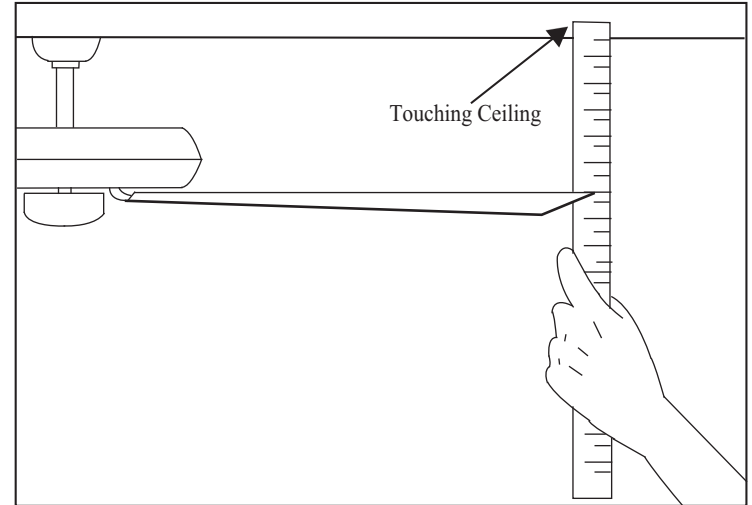

Figure 19
2. Most fan wobble problems are caused when blade levels are unequal. Check this level by selecting a point on the ceiling above the tip of one of the blades. Measure from a point on the center of each blade to the point on the ceiling. Measure this distance as shown in Figure 19. Rotate the fan until the next blade is positioned for measurement. Repeat for each blade. Measurements deviation should be within  $1/8"$ . Run the fan for 10 Minutes.